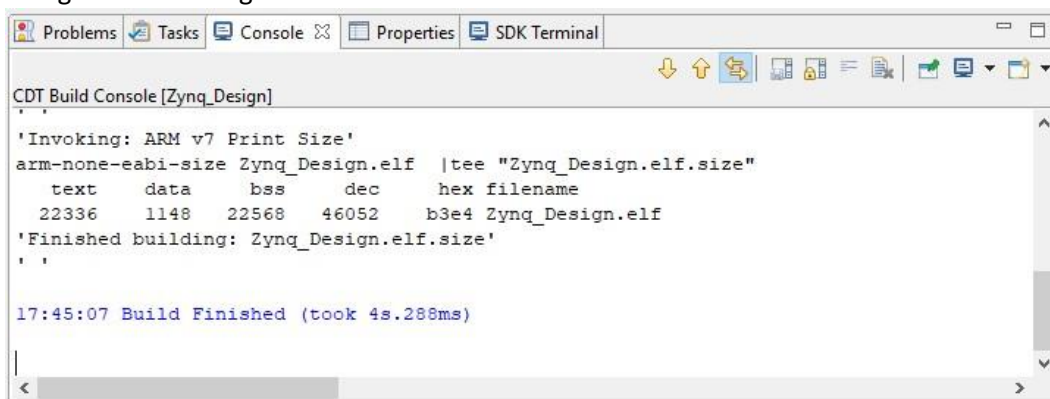

Figure 27: Compilation messages in the SDK Console.
6. The program will begin compiling in the SDK. When it finishes compiling, you will see the console messages shown in Figure 27.